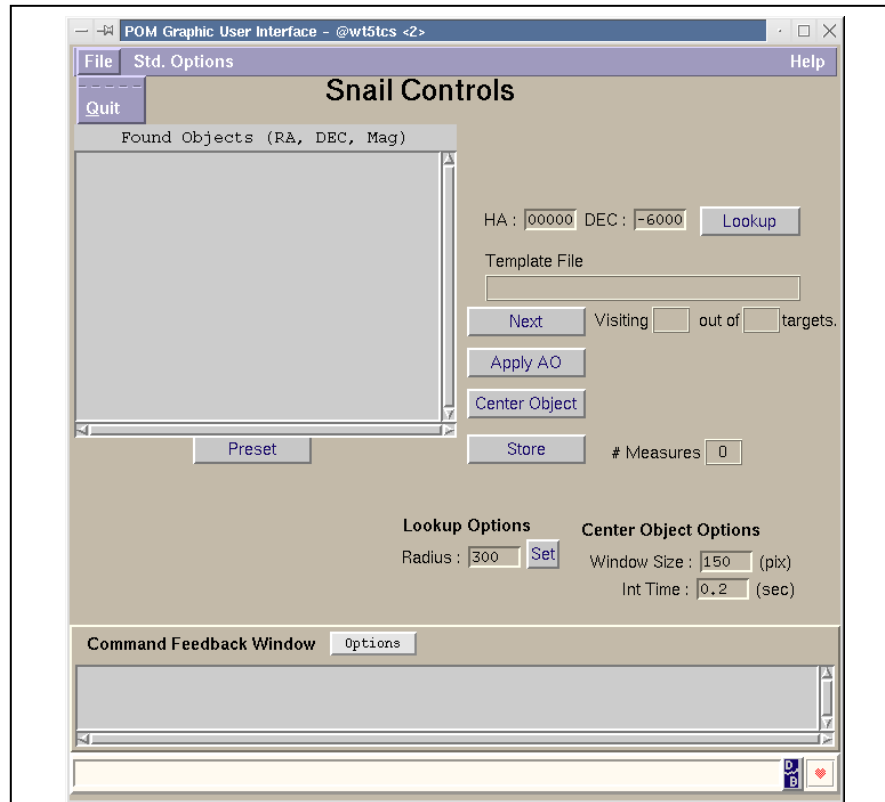

Figure 2.9: Manual Control Interface.
6. Check integration time and window size from [Manual Control] panel. To change integration time or box side for automatic procedure you have to open 'Manual Control' window (Figure 2.9). There you will have input boxes for window size and integration time. For NTT a good range of integration time is from 0.1 to 0.3 seconds. The other parameters don't need to be changed. Then in [file] menu select [quit], the time will be stored automatically